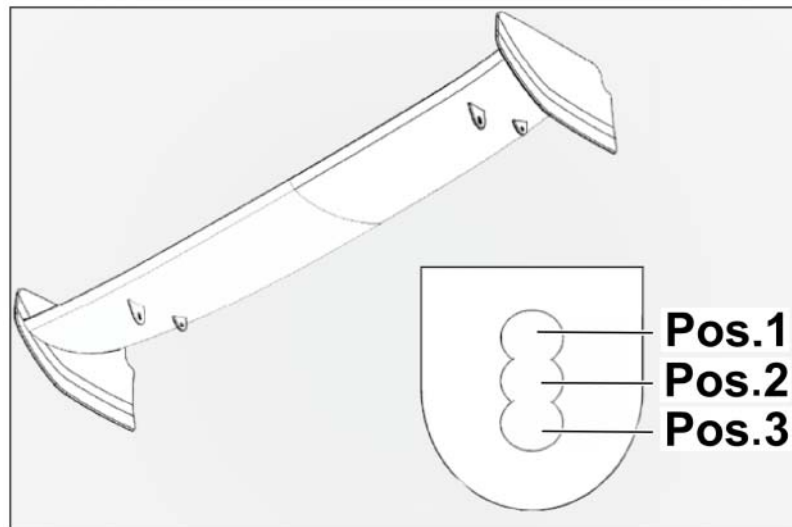

Figure 76
52. – The incline of the rear wing can be adjusted using three holes in the front fastening straps \Rightarrow *Figure 76*. Wing position 3 represents the standard setting (delivery status).